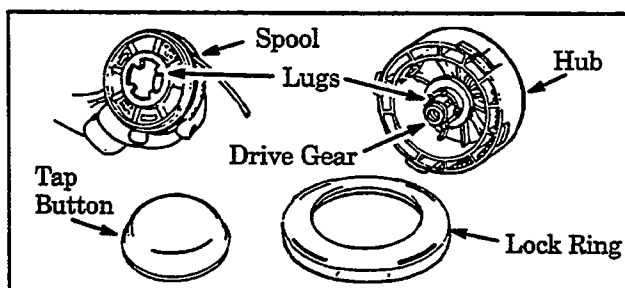
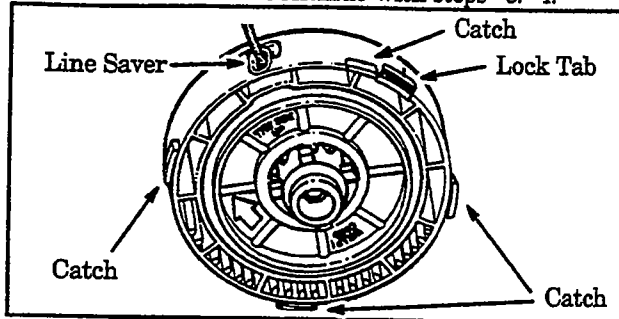

Figure 16
Figure 17
- b. Remove the lock ring, tap button, and spool. Figure 16 .
NOTE: The aluminum line saver (Figure 17) can become worn during use. After a groove is worn into line saver, remove it from trimmer head, turn it upside down, and reinstall it (with spool removed) to provide a new wear surface.
- e. Insert the end of the line through the line saver. Figure 17. Place spool in trimmer head. Press spool down, then turn it enough to lock lugs on spool under lugs on drive gear. Figure 16.
- f. Replace the tap button. Align the lock ring over the catches on the hub; push the lock ring down on the hub and turn it clockwise until the catches lock into place. Figure 17.